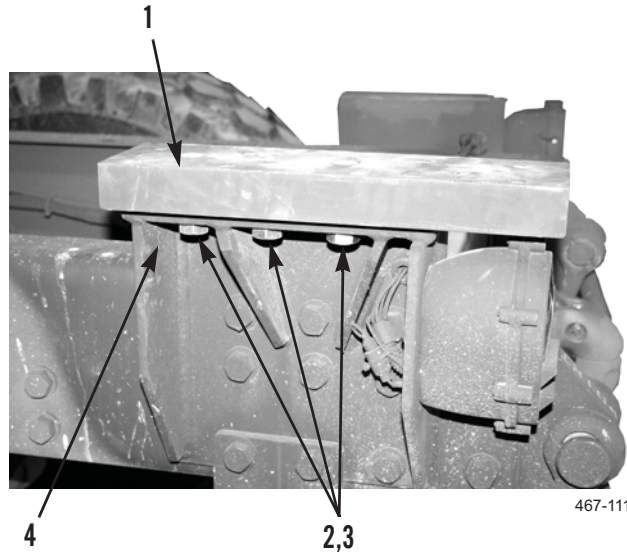

Figure 11. HEMTT Slider Mounting Block Removal.
5. Remove three bolts (Figure 11, Item 3), washers (Figure 11, Item 2), and slider mounting block (Figure 11, Item 1) from mounting bracket (Figure 11, Item 4).